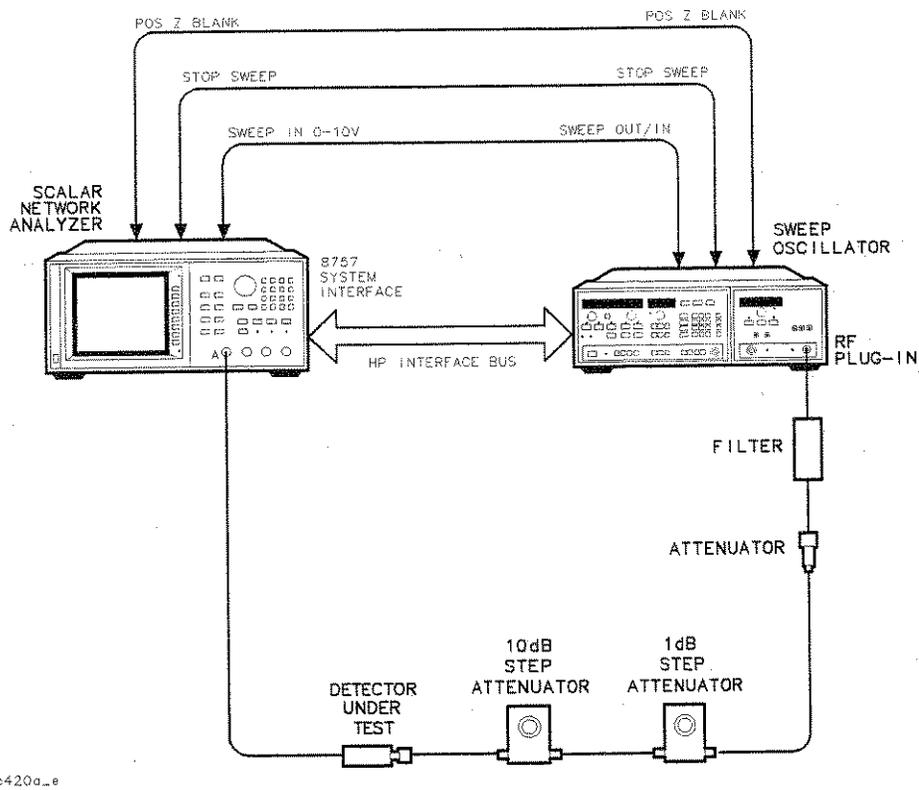

Figure 4-5. Power Accuracy Alternate Test Setup
1. Connect the equipment as shown in Figure 4-5. Allow 30 minutes warm-up time.